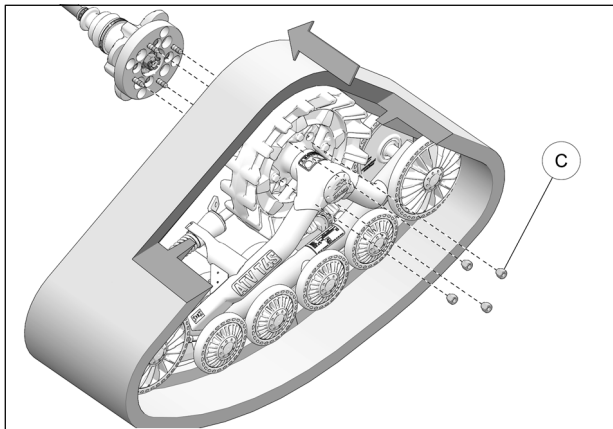

Fig. 15
- Using the wheel nuts (C) provided, secure undercarriages to front wheel hubs. The procedure and precautions are the same as for rear units. Refer to Fig. 15